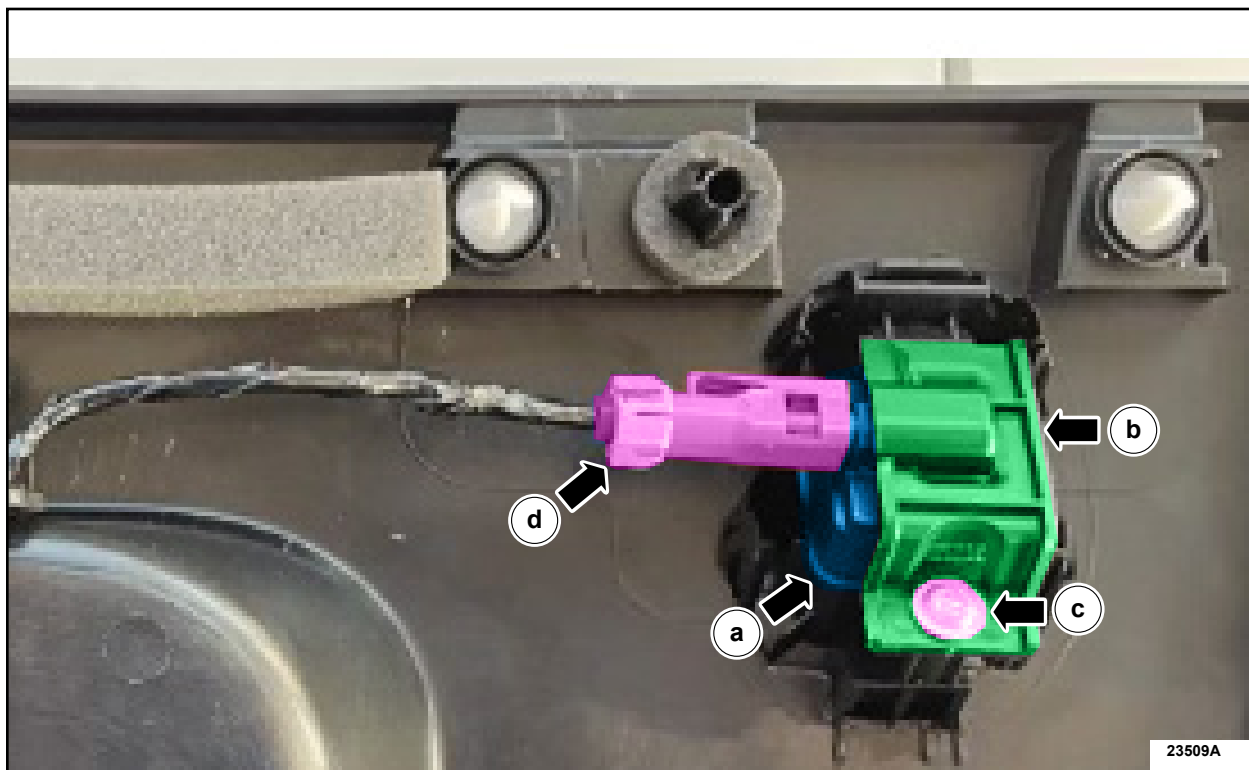

FIGURE 7
2. Install the *new* rear view camera. See Figure 7.